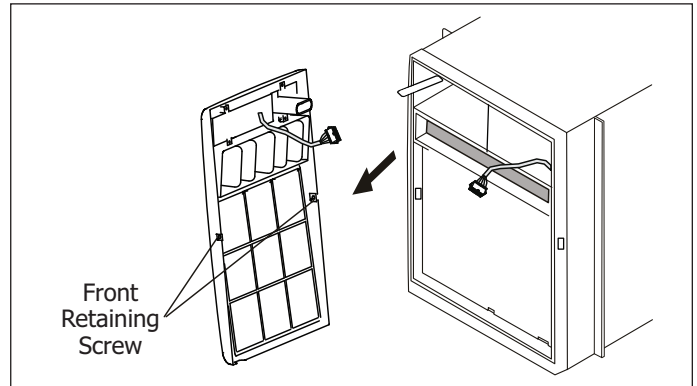

Figure 2-58.
1. Remove the two front retaining screws from the front frame. (See Figure 2-58)